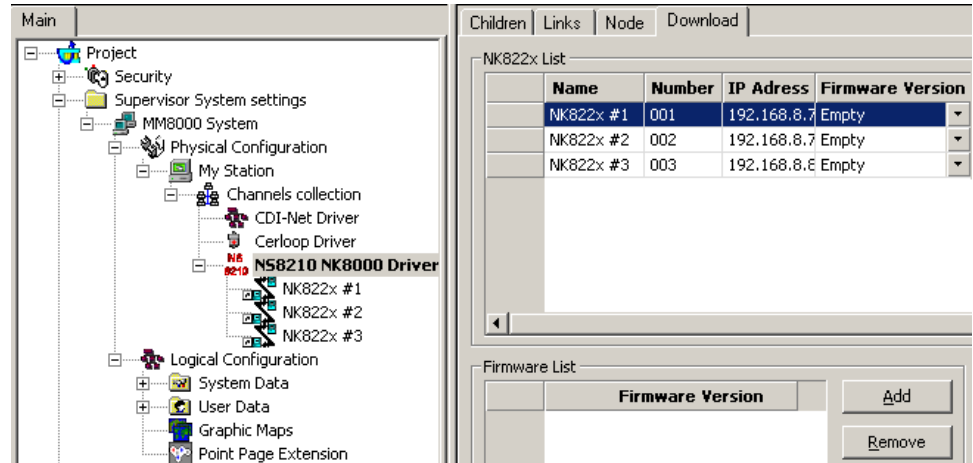

Fig. 8 Download tab
4. Select the **NS8210 driver** node and then the **Download** tab (Fig. 8).
- see Fig. 8 above